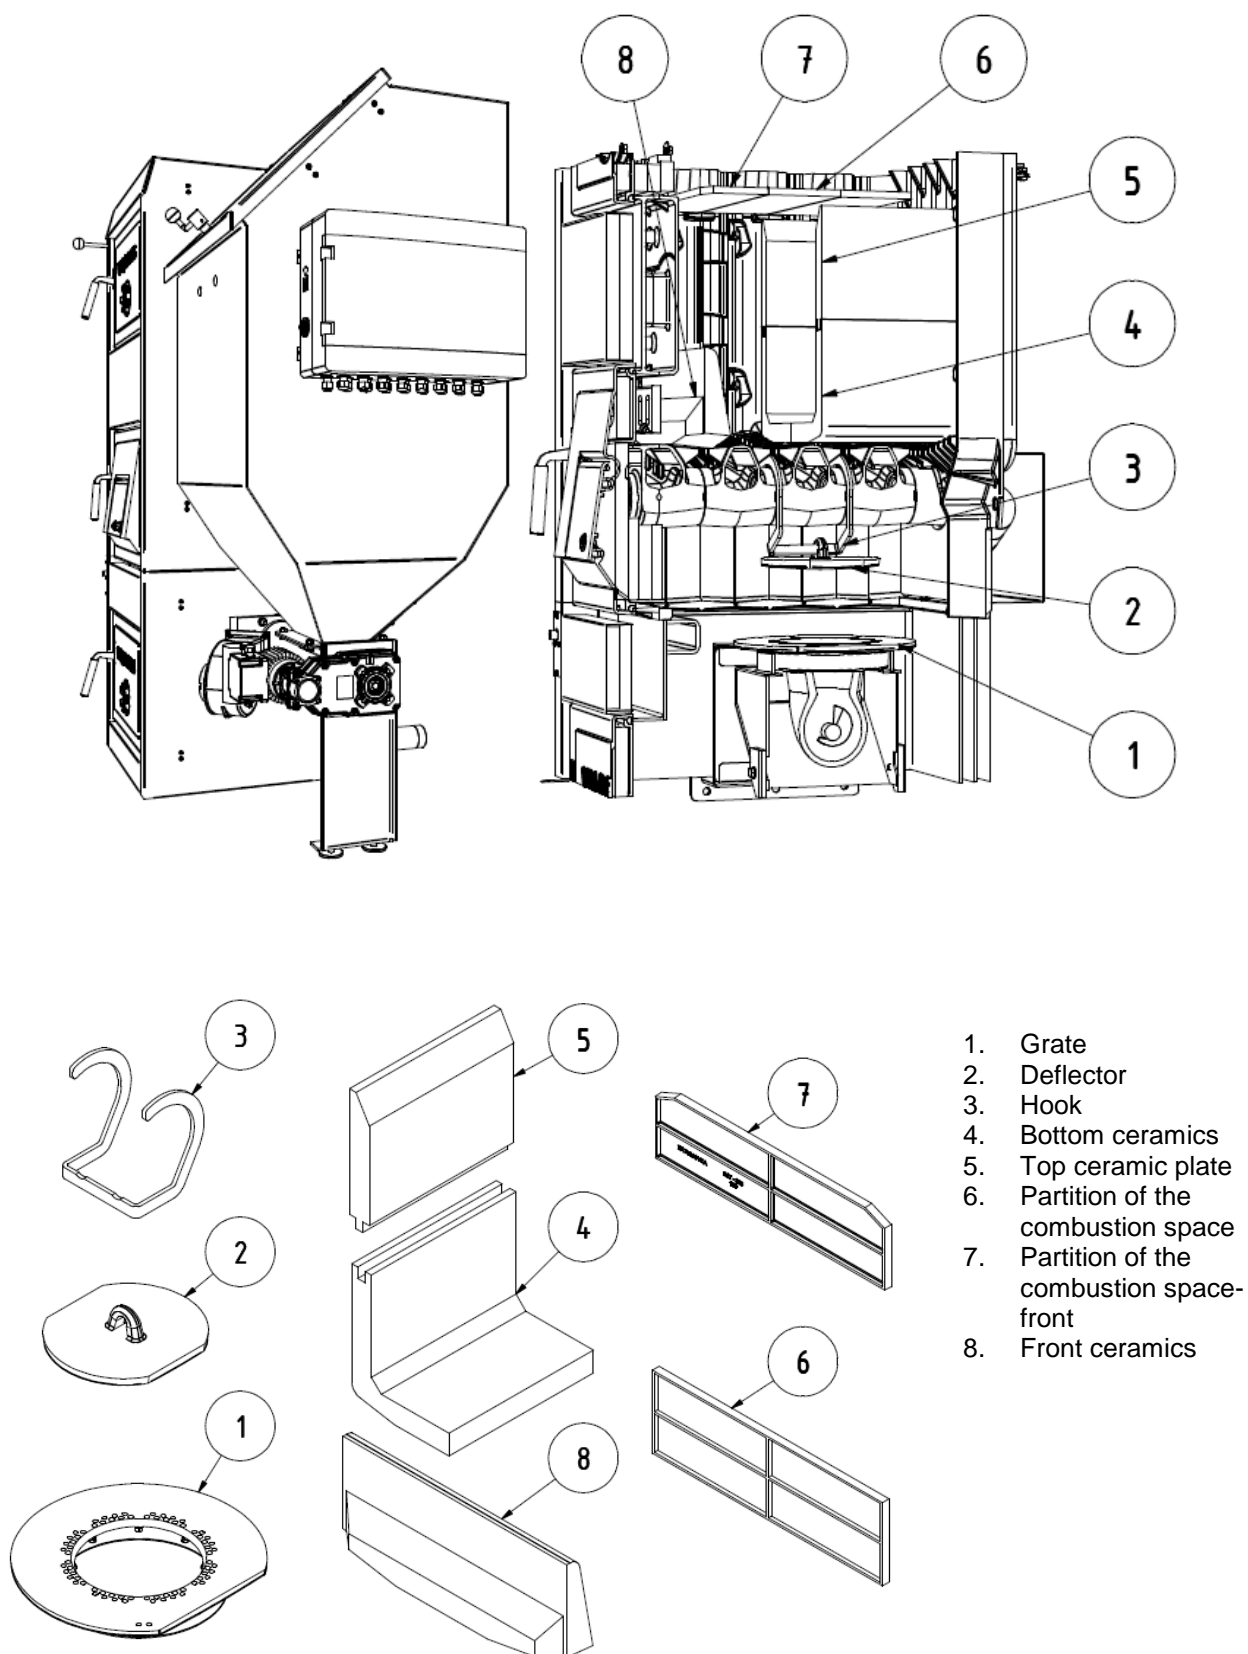

Fig.No. 11 Location of components and ceramics inside the boiler
8. Open the cleaning door (see Figure No. 2 - Item 6) and hang hook with deflector so that the center of the deflector is above the center of the burner grate (see Figure No. 11).
9. Open the cleaning door (see Figure No. 2a - Item 5) and insert 8 turbulators (see Figure No. 2a - Item 12), 5 pieces of ceramics (see Figure No. 11) and partitions of the combustion space (see Figure No. 11).